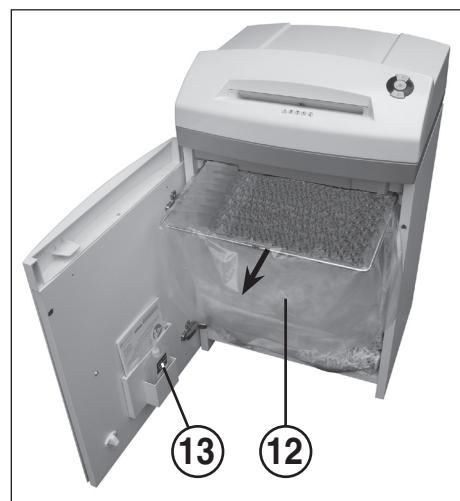

fig. 4
12 = Paper collection bag (Fig. 4)
13 = Oil reservoir (Fig. 4)
### EMPTYING THE PAPER COLLECTION BAG (Fig. 4):
Open the door. The control display  (8) comes on and the reverse button (4) LED display  as well as the control display  (7) **flashes**. Remove the oil reservoir (13) (Fig. 4) from the holder in the door and close the door again.